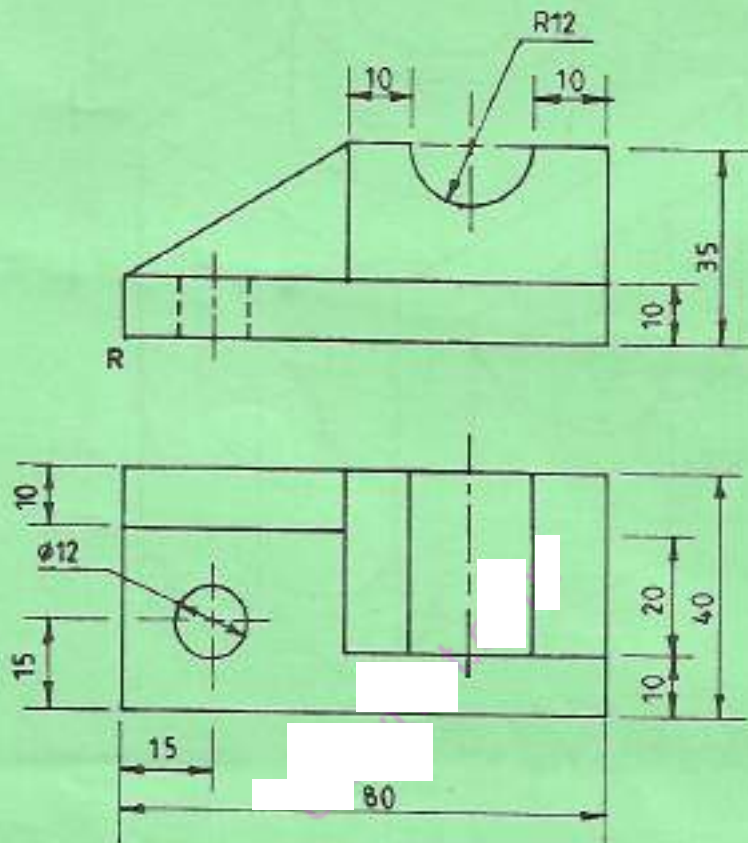

Fig. 4
5. Figure 4 shows two orthographic views of a machine block. Draw the block in isometric projection with corner R as the lowest point. (15 marks)